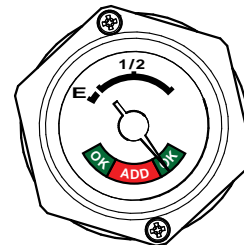

Figure 7. Propane Tank Fuel Gauge
2. Read the *propane fuel gauge* (Figure 7) located on top of propane tank.